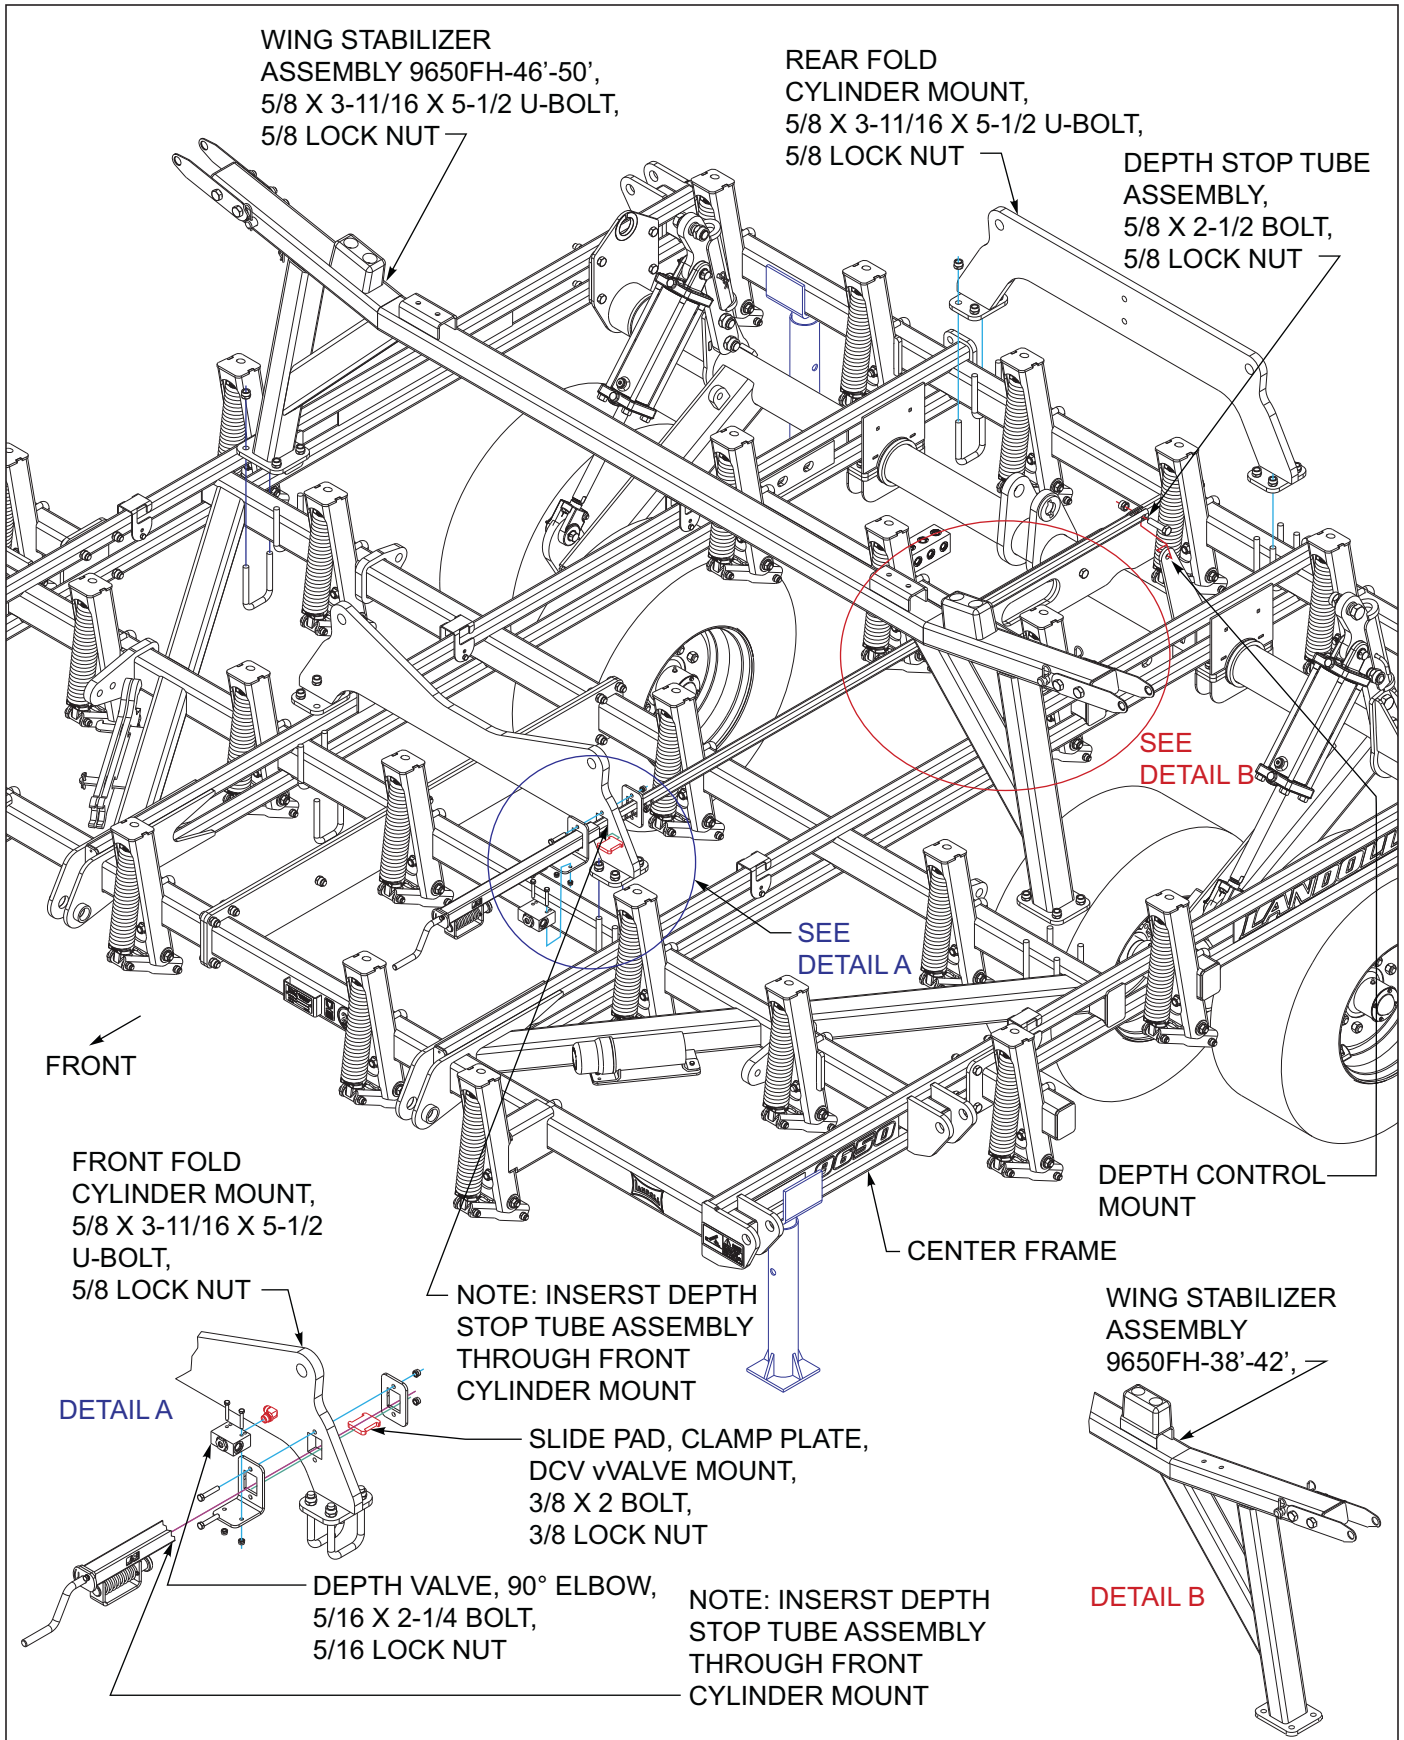

Figure 3-3: Center Frame Fold & Depth Control Assembly
1. Attach the front & rear fold cylinder mounts to the top of the center frame using 5/8 x 3-11/16 x 5-1/2 u-bolts and lock nuts *See Figures 3-3*. The rectangular hole in the front cylinder mount will be mounted to the left side of the center frame.
Location of rubber mount for models 9650FH-38'-42' and 9650FH-46'-50' See Figures 3-3, Detail B.